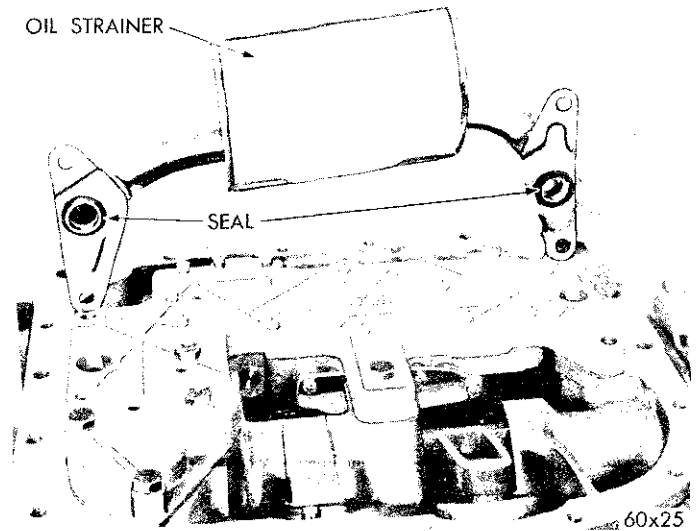

Fig. 92—Installing Oil Strainer on Valve Body and Transfer Plate Assembly
(4) Install the cable adapter stud nut and tighten securely.
(5) Install the transfer plate bolts (leaving four holes vacant to attach the oil strainer), tighten evenly and torque 14 to 16 foot-pounds.
(6) With the sealing washers on the ends of the strainer tubes, place strainer in position on the transfer plate. Install remaining bolts and torque 14 to 16 foot-pounds (Fig. 92).
(7) Install the neutral starter switch and sealing washer and tighten 15 to 20 foot-pounds torque. Make sure manual lever contacts the switch plunger when in neutral position.